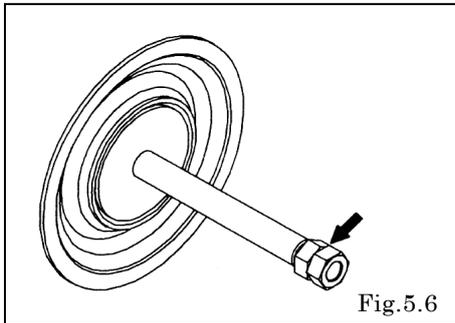

Fig.5.6
- Remove the other diaphragm by using a double nut, then take the diaphragm, the center disk and cushion out of the center rod [Fig.5.6].